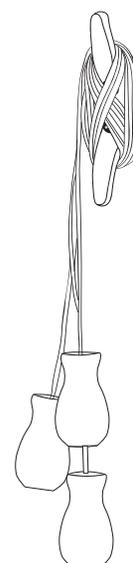

FIG. 4
- Secure the cleat to wall or architrave at least 1600mm above floor level with screws provided (FIG.4)
- Wind any excess cord around the cleat to minimise any hazards (FIG.4)